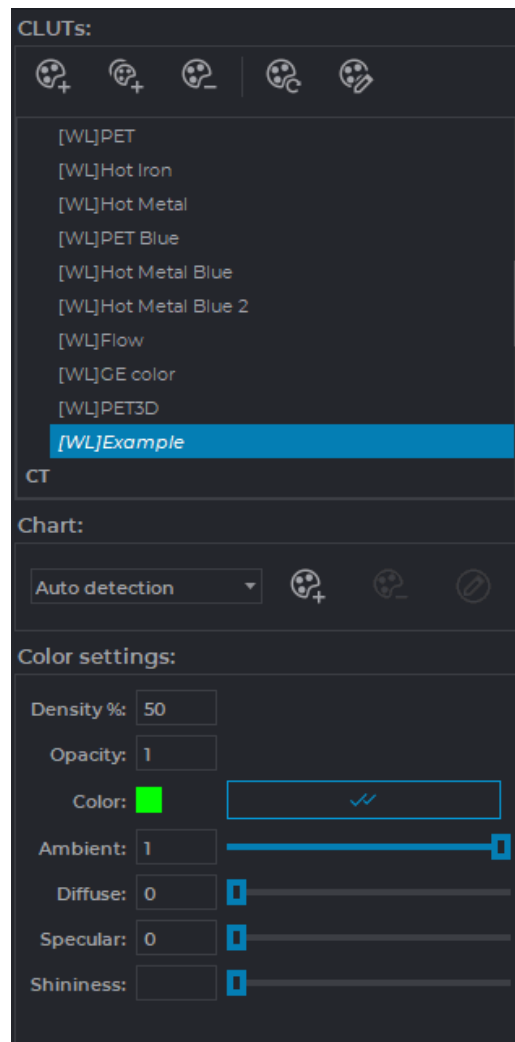

Figure 2.64: CLUTs setup panel
3. To rename a CLUT, double-click the left mouse button on it, enter the new name and press the **Enter** key on the keyboard. In our example, in Figure 2.64, the table is renamed «[WL]Example».